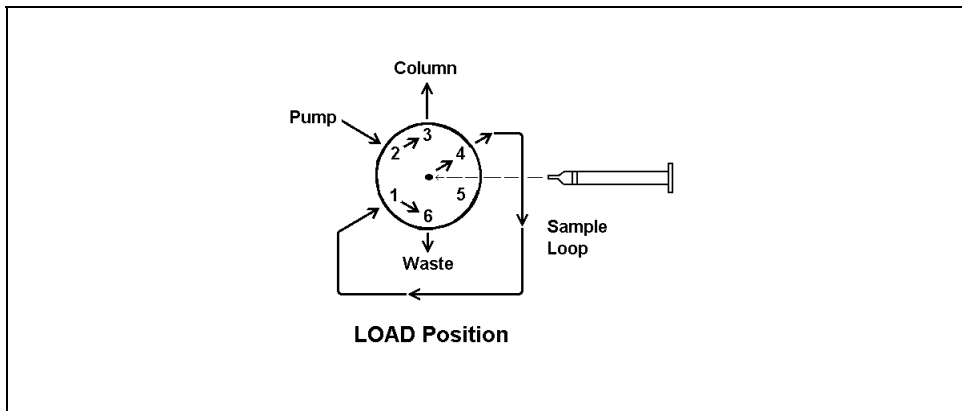

Figure 3-1. Injecting Directly into the Valve
- b. Insert the syringe into the needle port on the injection valve (see Figure 3-1).